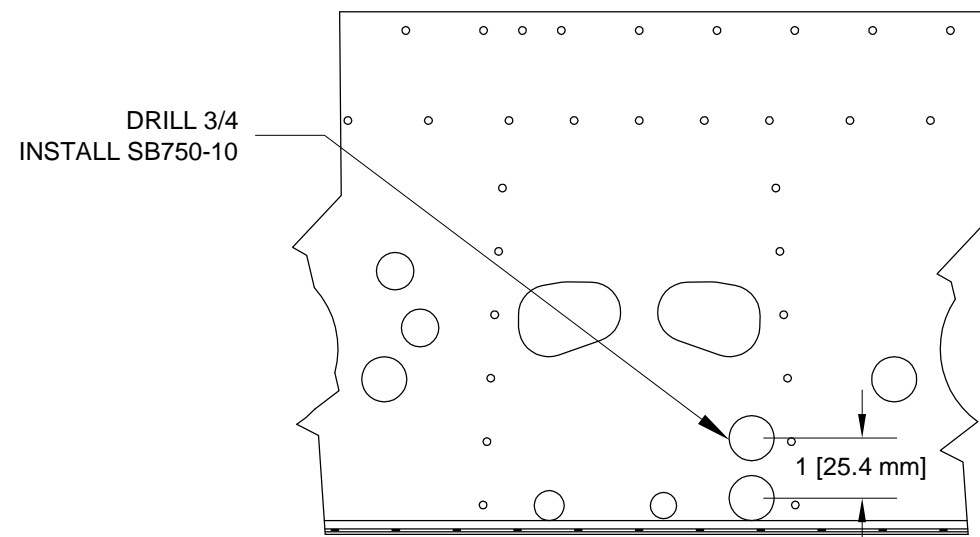

FIGURE 2: MODIFYING F-1204D
Step 2: Drill 3/4 and deburr a new wiring hole in the F-1204D Bulkhead as shown in Figure 2.
Install a snap bushing in the hole as shown in Figure 2.